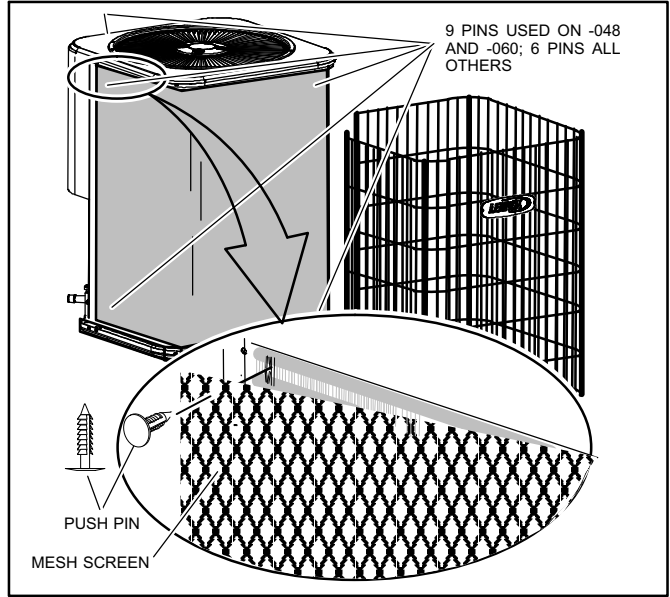

Figure 23. Cleaning Debris from Mesh
2. The outdoor coil is protected by an inner mesh screen and a wire cage (see figure 23). If debris has collected between the mesh screen and the coil and cannot be dislodged by spraying un-pressurized water from inside coil surface to the outside, the mesh may be removed by first removing the top of the unit which will allow for removal of the wire cage.